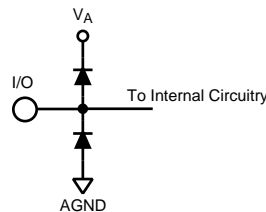

Figure 2.
- (1) The inputs are protected as shown below. Input voltage magnitudes above V_A or below GND will not damage this device, provided current is limited per Note 4 of the Absolute Maximum Ratings Table. However, errors in the A/D conversion can occur if the input goes above 2.6V or below GND as described in the Operating Ratings section. See Figure 2.
- (2) With a full scale differential input of $2V_{P-P}$, the 12-bit LSB is $488\text{ }\mu\text{V}$.
- (3) Typical figures are at $T_A = 25^\circ\text{C}$ and represent most likely parametric norms at the time of product characterization. The typical specifications are not ensured.
- (4) This parameter is specified in units of dBFS - indicating the value that would be attained with a full-scale input signal.
- (2) With a full scale differential input of $2V_{P,P}$, the 12-bit LSB is 488 μV .
- (4) This parameter is specified by design and/or characterization and is not tested in production.